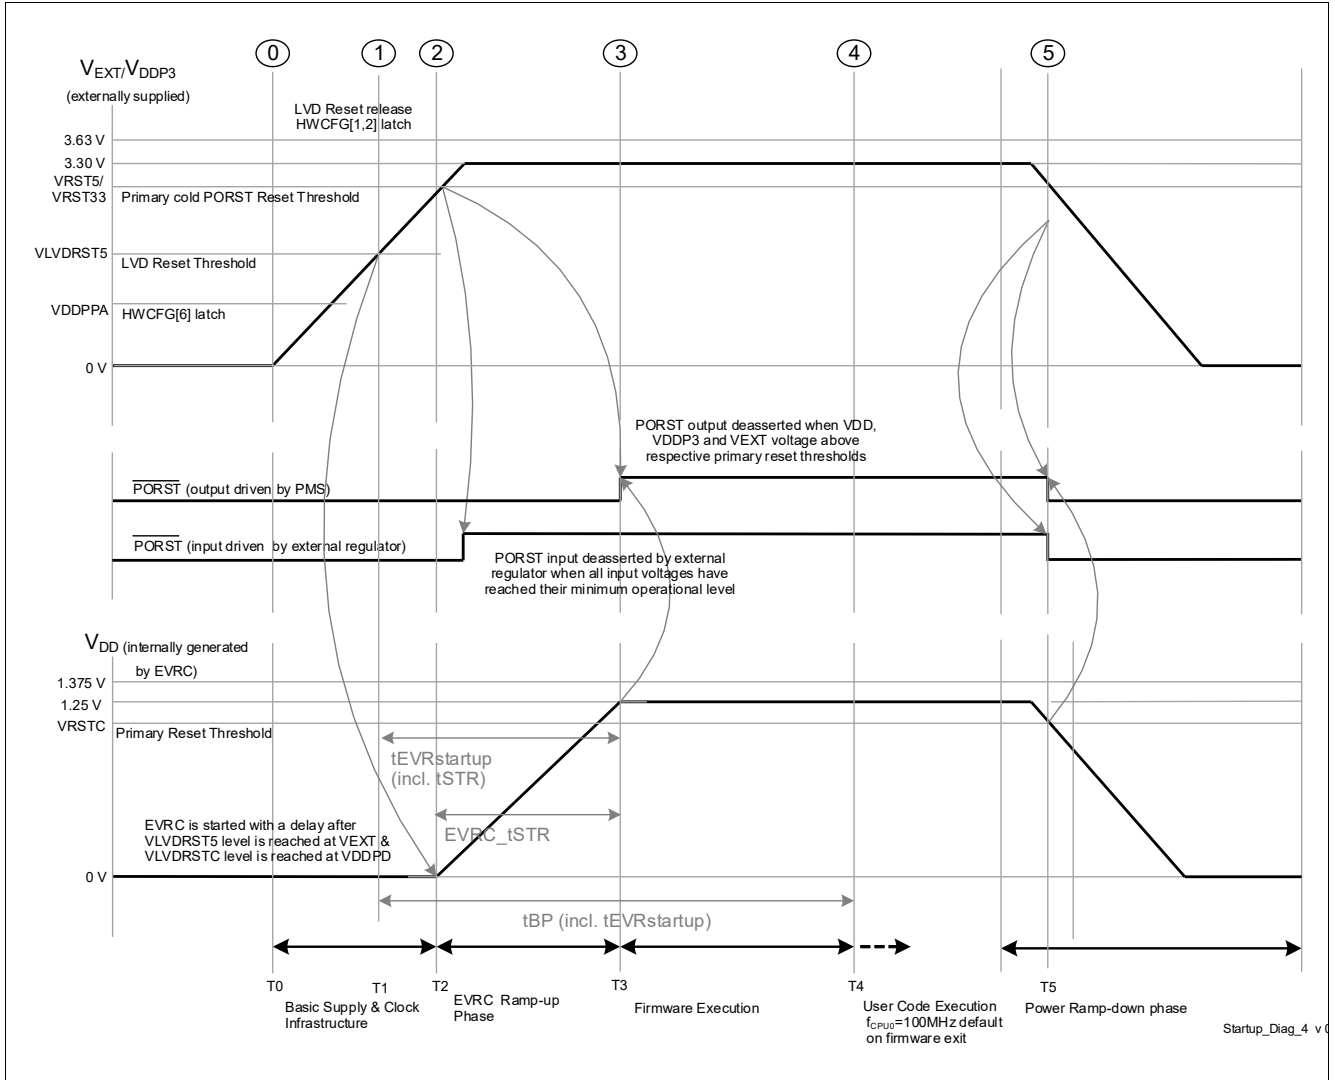

Figure 3-4 Single Supply mode (e) - (V_{EXT} & V_{VDDP3}) 3.3 V single supply
- The power sequence as shown in Figure 3-4 is enumerated below